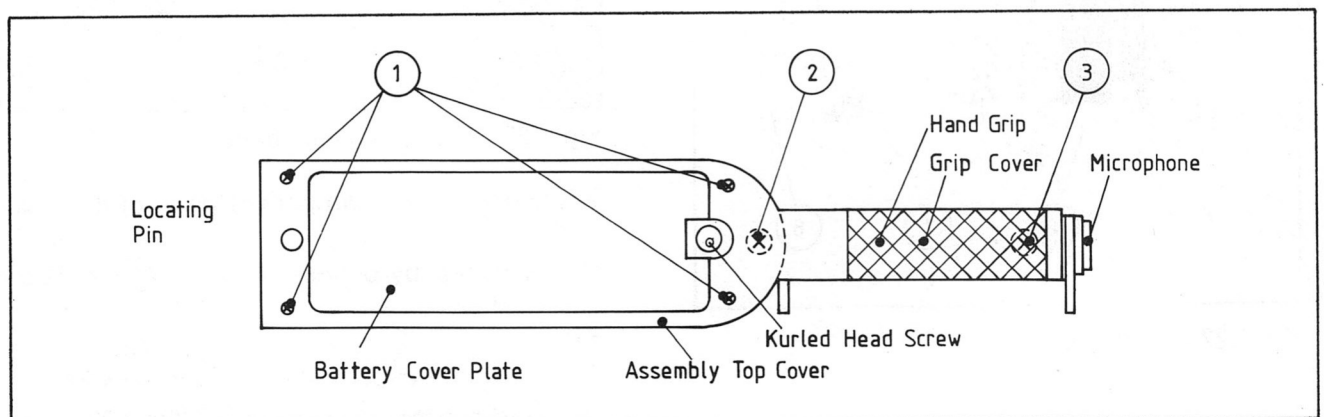

Fig 3.21 Microphone Replacement
- (1) Remove the four screws ① (Fig 3.21) and remove the assembly top cover
- (2) Remove the two screws ② (revealed when the top cover is removed) and ③ (situated on the underside of the hand grip)
- (3) Peel back the grip cover until the join between the top and bottom half of the grip is exposed
- (4) Lift the top half of the grip clear to reveal the microphone assembly